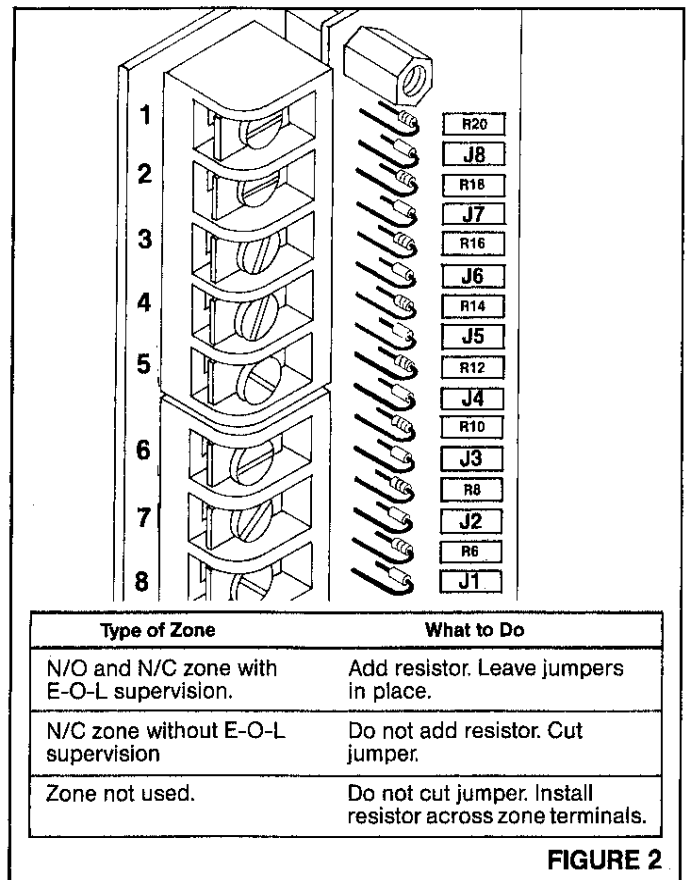

FIGURE 2
4. For normally closed loops with no end-of-line supervision: Do not install the resistors. Cut jumpers J-1 through J-8 for those zones that do not require end-of-line supervision. See Figures 2 and 3.